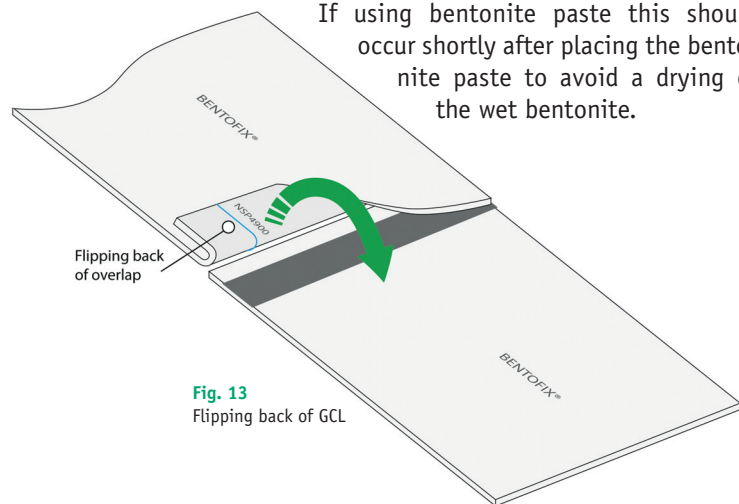

Fig. 13
17.12.3 After placing the bentonite powder or paste in the overlap zone, it is necessary to overlap the area with the neighbouring Bentofix® roll (e.g. fig. 13).